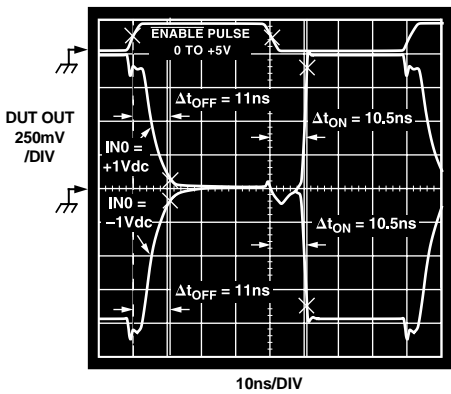

Figure 5. Enable and Disable Switching Characteristics
- NOTE 2: ENABLE pin is driven with 0 V to +5 V pulse (with 3 ns edges). State of SELECT input determines which channel is activated (i.e., if SELECT = Logic 0, IN0 is selected). Set IN0 = +1 V dc, IN1 = -1 V dc, and measure transition time from 50% of ENABLE pulse (+2.5 V) to 90% of the total output voltage change. In Figure 5, Δt_{OFF} is the disable time, Δt_{ON} is the enable time.